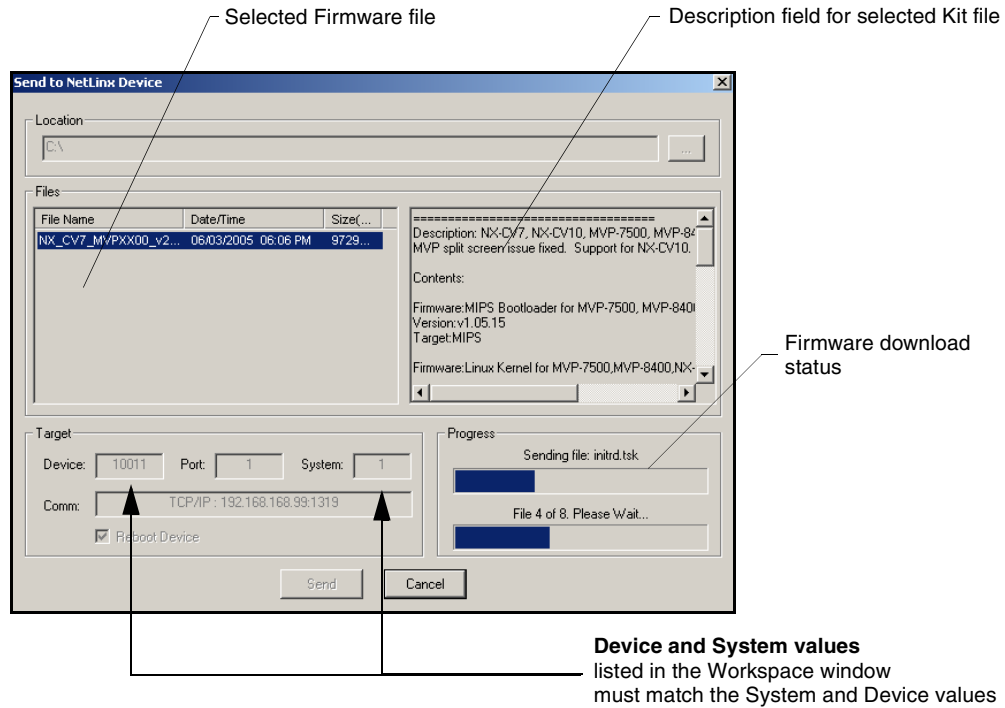

FIG. 61 Send to NetLinX Device dialog (showing Modero firmware update via IP)
6. From within Studio, select **Tools > Firmware Transfers > Send to NetLinx Device** from the Main menu to open the Send to NetLinx Device dialog (FIG. 61). Verify the panel's System and Device number values match those values listed within the System folder in the **OnLine Tree** tab of the Workspace window.
7. Select the panel's Kit file from the **Files** section (FIG. 61).
10. Click **Send** to begin the transfer. The file transfer progress is indicated on the bottom-right of the dialog (FIG. 61).